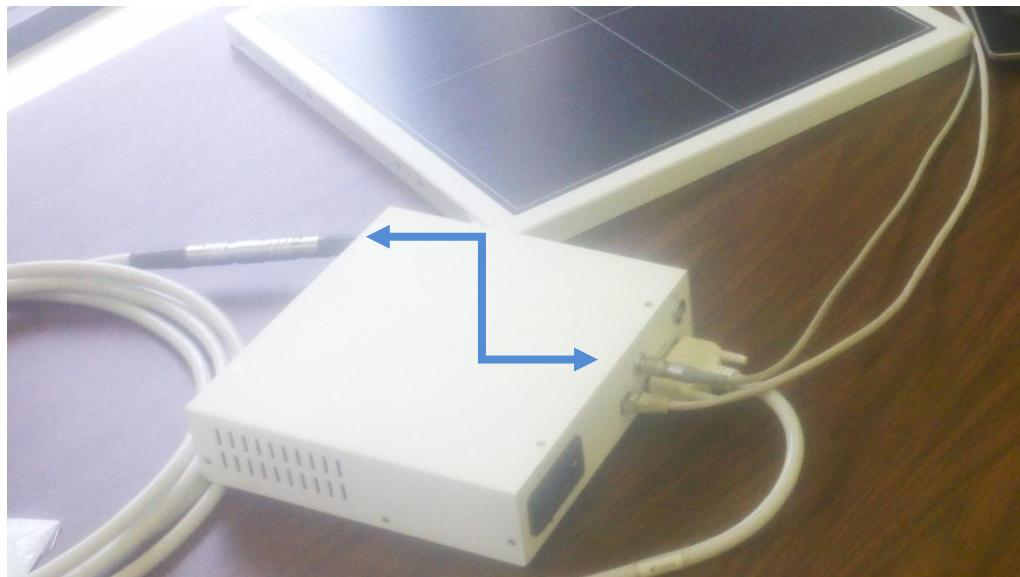

Figure 16: 25 pin D-sub tether cable
2. Plug in the 25 pin D-sub tether cable end to the ViZion DR + power supply in the detector port it is key and will only fit in one way, plug the round end to the detector while lining up the 2 red dots plate. Figure 16